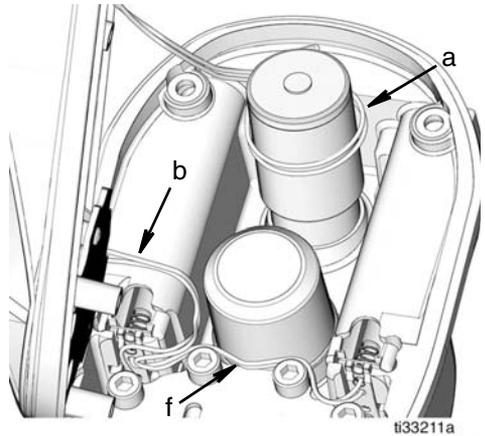

FIG. 9
FIG. 9 shows the inside of the housing with all wires routed correctly.
1. Remove screws (36) and battery cover (5).
2. Remove screws (21), o-rings (20) and bezel (19).
3. Remove Foam (39) and adhesive.
4. Remove the Power Cable (38).
5. Install the new Power Cable (38).
- Cord is to the left when holding the metered valve in a normal dispense position (FIG. 9).